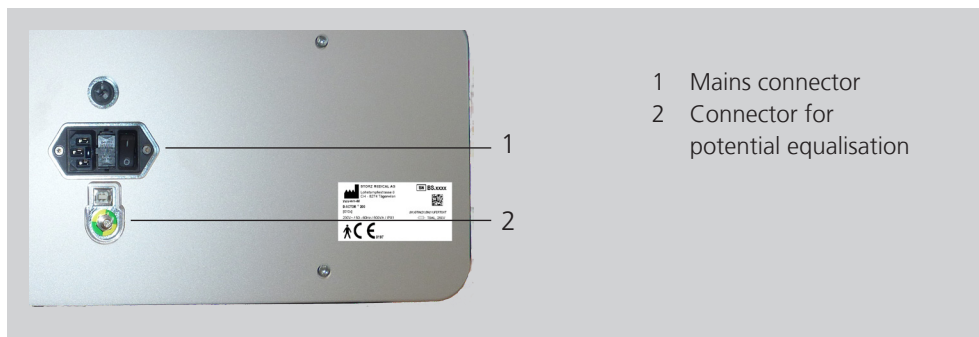

Fig. 3-7 Connecting the electrical power supply
At the rear side of the device a connection of a potential equalisation (Fig. 3-7/2) is available if due to national regulations or room class a connection is required.
- Connect the cable for the potential equalisation to the PE connector of the D-ACTOR 200 (Fig. 3-7/2) and connect it to your PE connector.